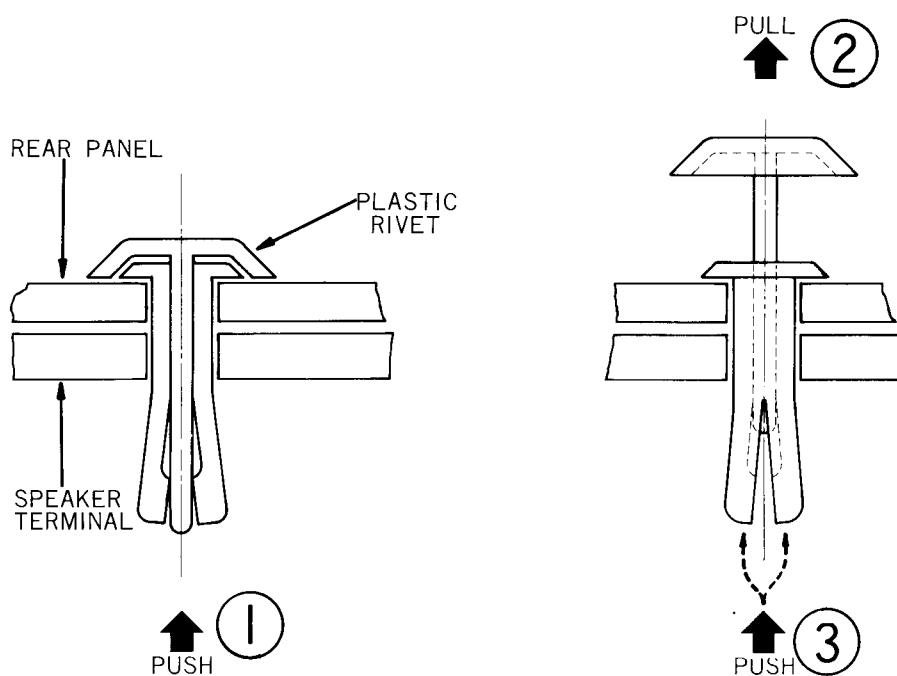

Fig. 8
5. The plastic rivets can be removed as illustrated in Fig. 8.